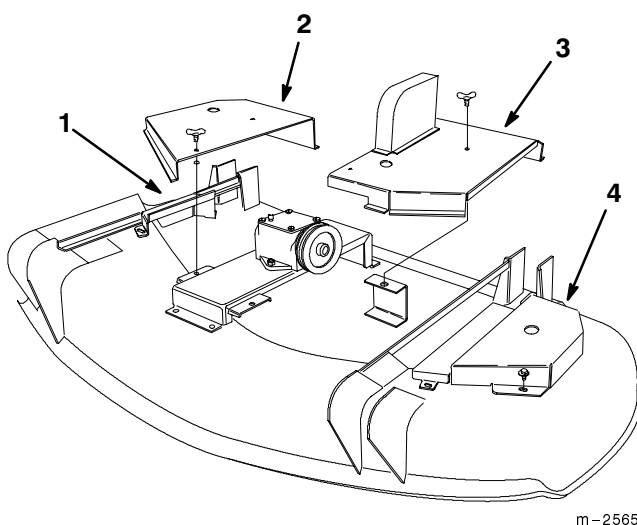

Figure 25
1. Turn the wing head studs holding the left and right center deck covers 1/4 turn counterclockwise and remove both center deck covers (Fig. 25).
2. Remove the flange screws holding the left and right covers to the deck and remove both covers (Fig. 25).
7. Reinstall the four deck covers onto the cutting unit (Fig. 25).